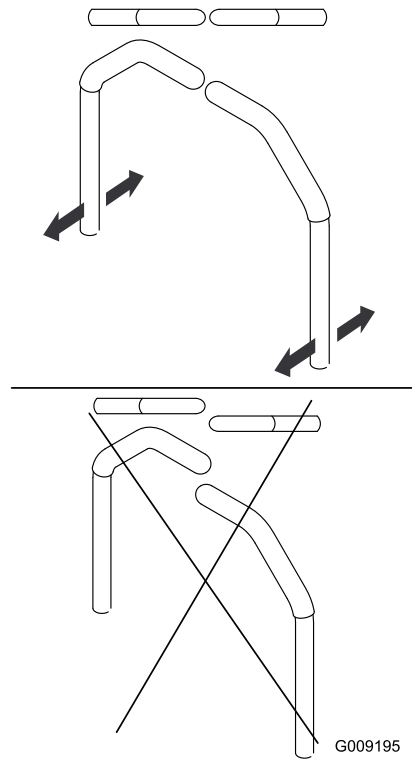

Figure 53
7. Align the levers in the front-to-rear position by bringing the levers together to the NEUTRAL position, and slide them until they are aligned, then tighten the bolts (Figure 53).